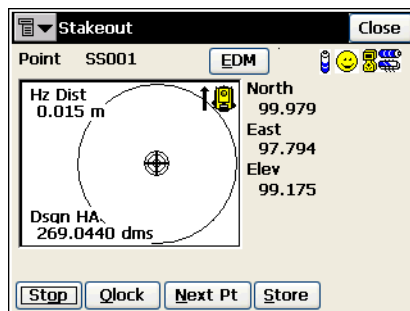

Figure 8-6. Display Coordinates
- *Display Coords:* if checked, coordinates are displayed instead of directions (Figure 8-6 on page 8-6).